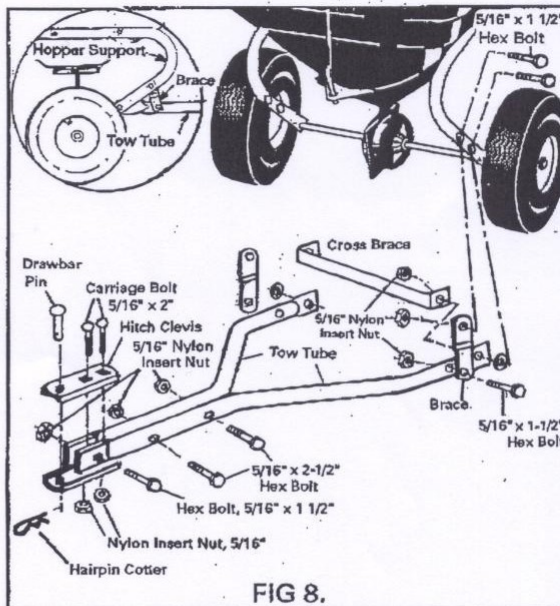

FIG. 8.
Refer to FIG. 8
NOTE. Do not tighten bolts until all steps in Fig. 8 are complete.
- (Refer to inset of Fig. 8) Move the tow tubes UP, toward hopper supports. Attach tow tubes to hopper supports at the two mounting holes at each side using the two (offset) braces. Attach using four 5/16" x 1-1/2" hex bolts and 5/16" nylon insert nuts.